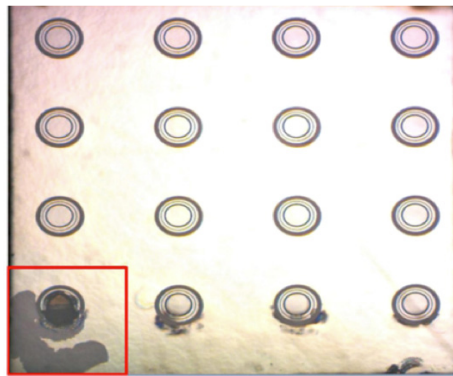

Figure 4. ESD damage on LED die.
- Damage can present itself as shown in Figure 4